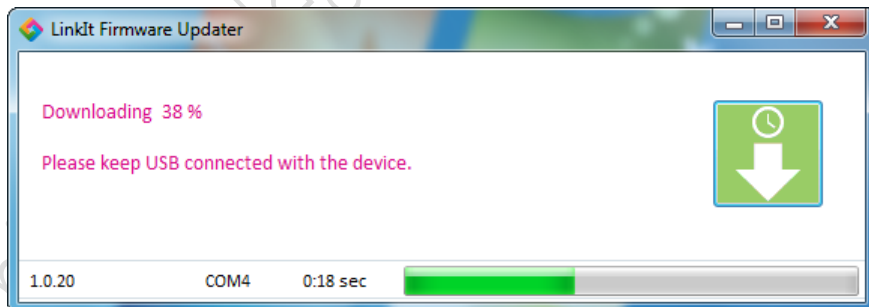

Figure 17 The board's firmware is being downloaded
- 5 Once LinkIt ONE is reconnected the firmware update will start automatically. LinkIt Firmware Updater will report that the firmware is being downloaded, as shown in Figure 17.